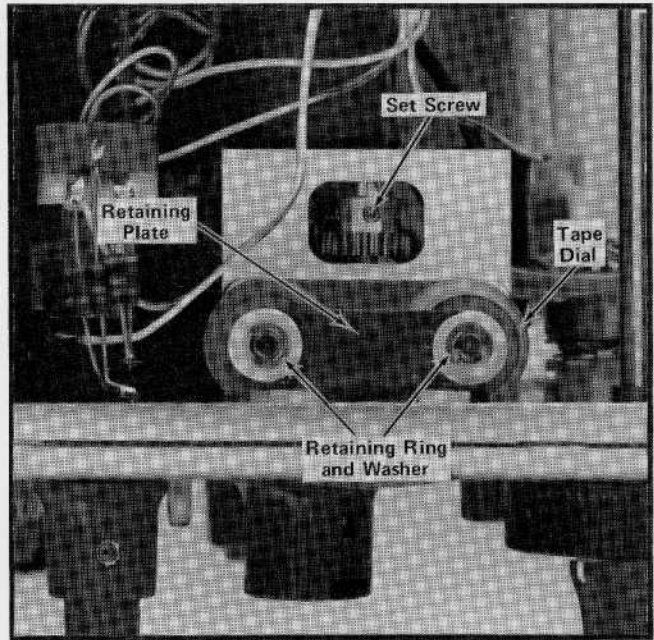

Fig. 4-1. Component locations for tape dial replacement or adjustment.
3. Using a sharp instrument (small screwdriver, etc.), remove both retaining rings from the posts. See Fig. 4-1.
2. Using an  $.050$  Allen wrench, loosen the setscrew shown in Fig. 4-1.